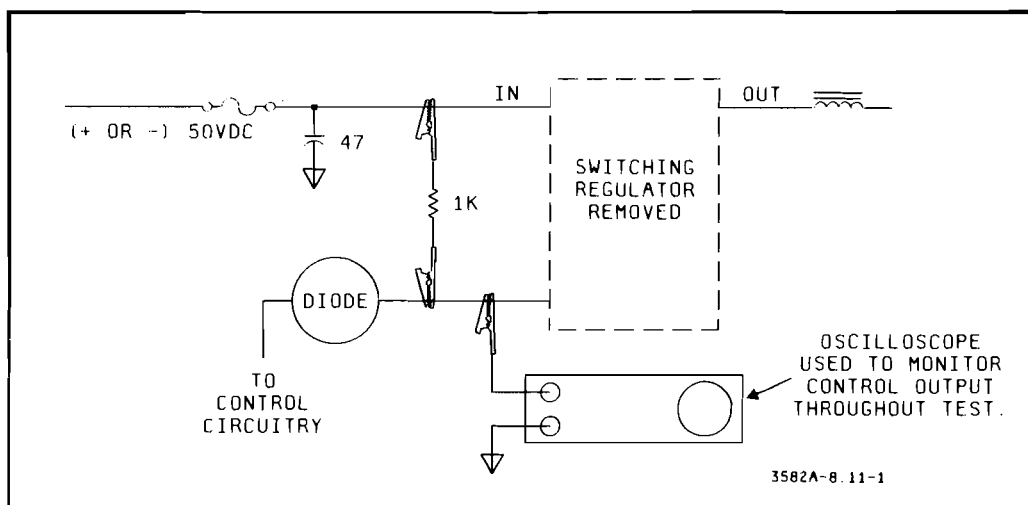

Figure 8-11-1. Initial Power Supply Test Setup.
d. Connect a 1Kohm resistor (-hp- 0683-1025) between the (+ or -) 50V input to the switching regulator and the control input to the switching regulator (use Figure 8-11-1 and the proper schematic as a guide).
g. Set up an oscilloscope for reading $\pm 80\text{VDC}$ and set the sweep for 10usec. Connect the oscilloscope to the control input line of the switching regulator (see Figure 8-11-1).